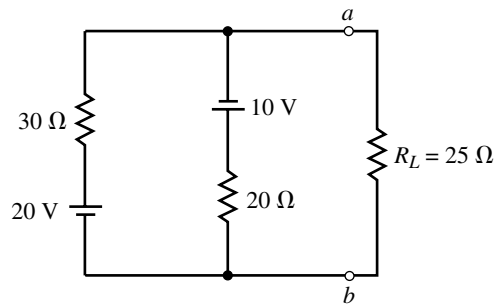

FIGURE 9-103
45. Use Millman's theorem to find the current through and the power dissipated by R_L in the circuit of Figure 9-103.